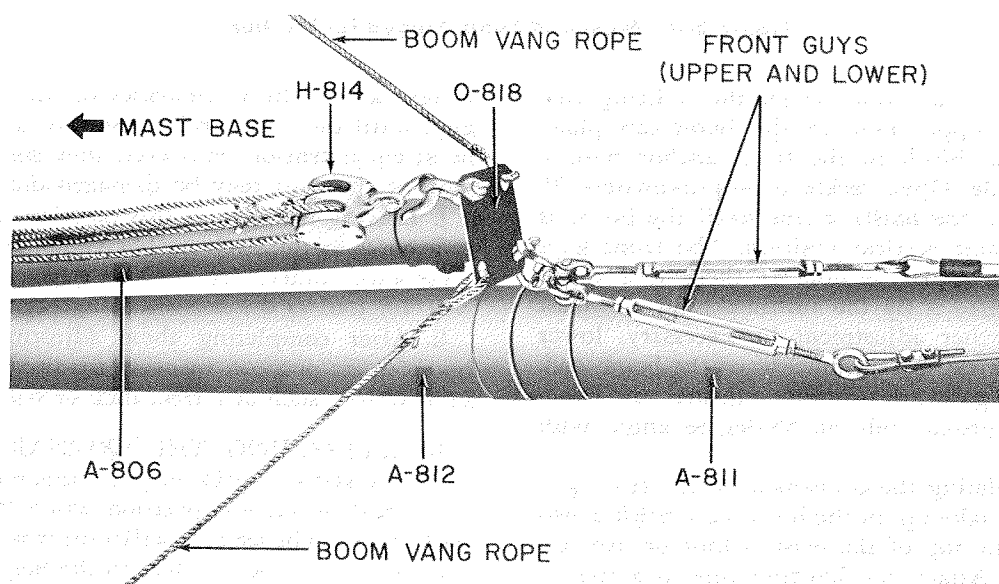

Figure 3-6. Boom-Cap Rigging Prior to Erection of Mast
p. Place the boom-cap assembly on the small end of the boom so that the ropes appear as illustrated in figure 3-6.
f. Carefully check the mast rigging against figures 3-6 and 3-7.